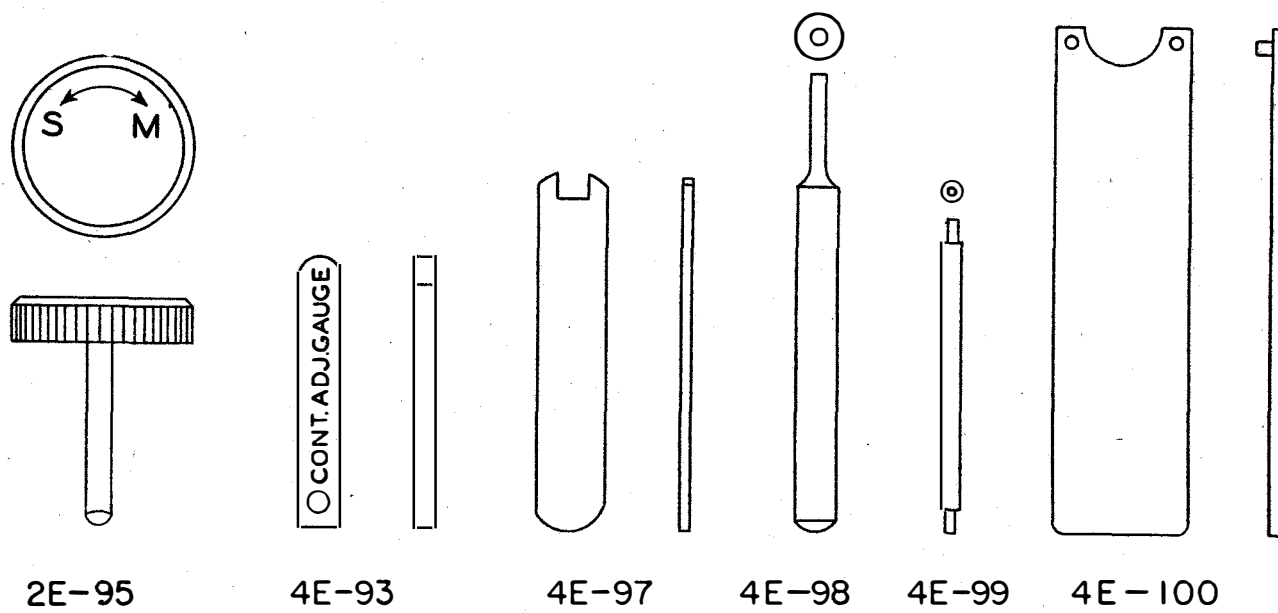

Figure 21. Set of tools for keying head.
a. **Tools.** A set of tools (fig. 21) is supplied with each keying head. The six tools are as follows:
- (1) Feeler gauge (4E-93) for contact gap adjustment.
- (2) Bias key (2E-95) for bias adjustments.
- (3) Contact wrench (4E-97) for removing tongue contact nut.
- (4) Punch (4E-98) for removing and replacing all pins and for timing of gears.
- (5) Tommy bar (4E-99) for contact adjustment.
- (6) Spring tension wrench (4E-100) for adjusting spring tension on the tape drum bracket.